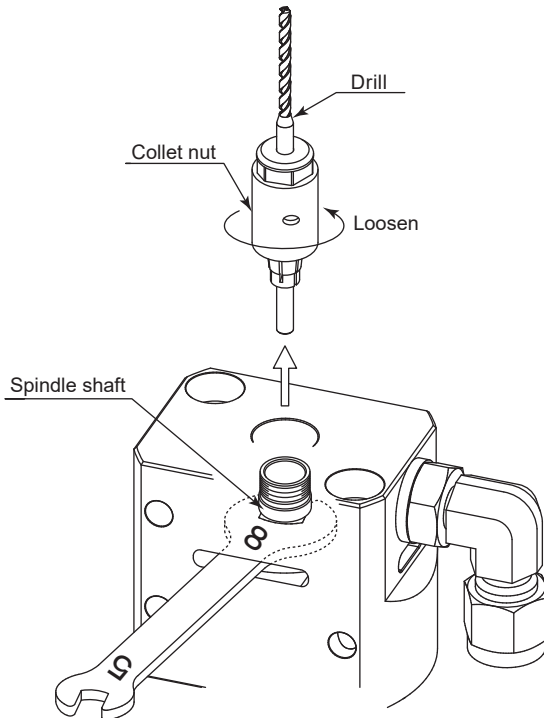

Fig. 4
- (1) Loosen the collet nut with the cutting drill installed as described in section "8. CHANGING THE DRILL". Keep turning the collet nut until it comes out of the spindle shaft together with the cutting drill, and then remove the cutting drill from the collet. (Fig. 4)